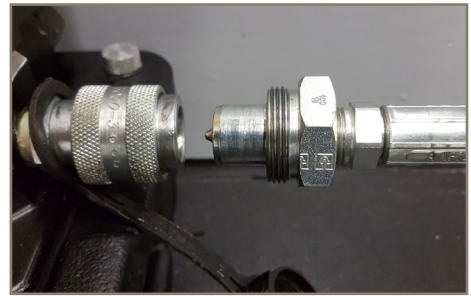

Figure 50
1. With the pump on a flat and stable work surface, Connect the hose to the pump's hydraulic outlet using the quick connect (Figure 50).